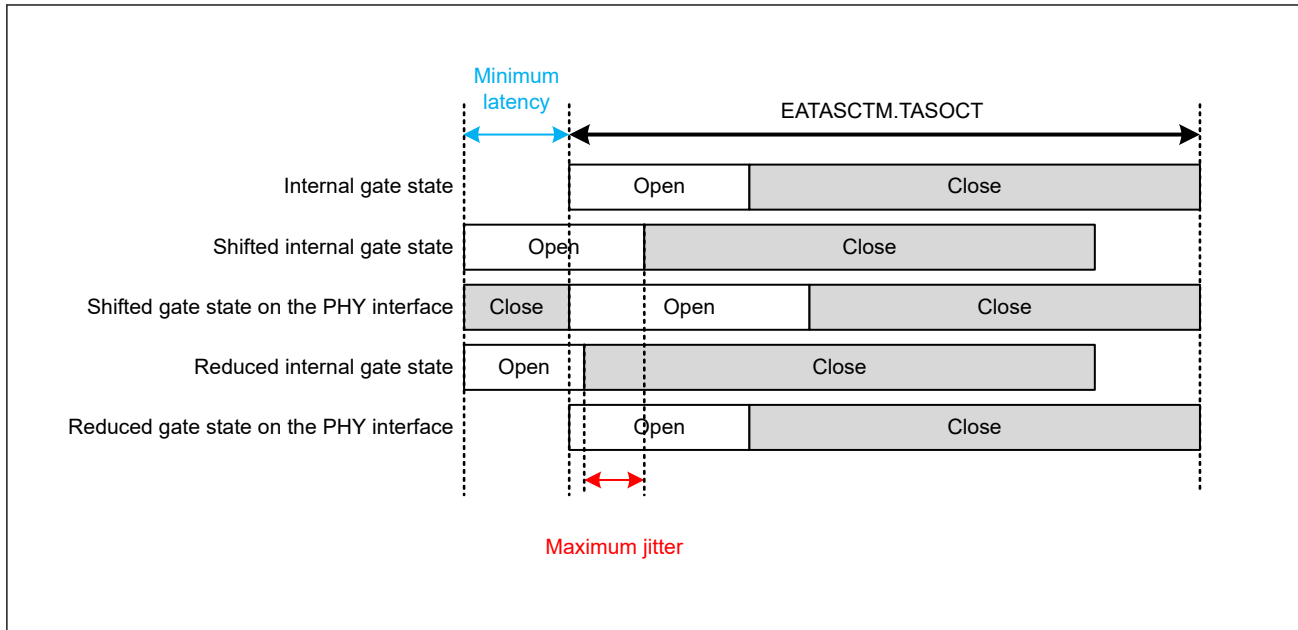

Figure 33.30 Maximum jitter calibration
Because of the internal maximum jitter, with a non-calibrated schedule, a frame always finishes transmitting late on the PHY interface [RMAC]. To correct this, a TAS schedule opened gate should always be closed in advance compared to the expected close time of the maximum jitter (Figure 33.30). This maximum jitter should be calculated using equation (9). To calibrate the schedule, software should set the maximum jitter in EATASHCC.TASJ register.